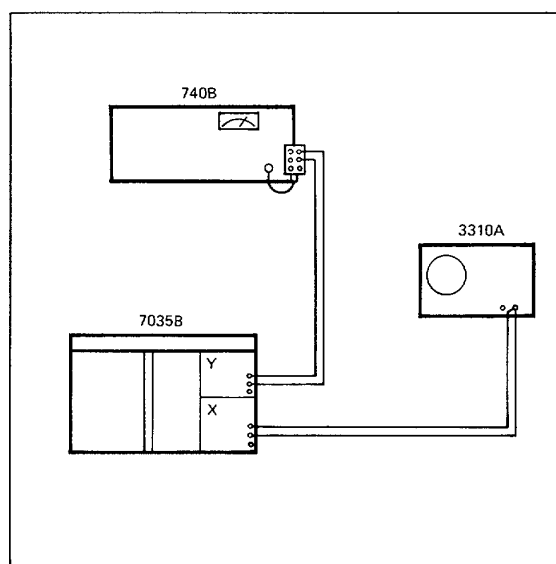

FIGURE 5-12. Y-AXIS SLEWING SPEED TEST SETUP
- a. Hook up recorder as shown in Figure 5-12.